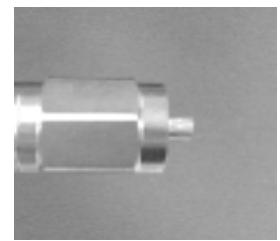

Figure 4
- 5) **Slide** back-nut of connector into place onto prepared cable end. Center conductor should protrude at least 0.25" (5/8" & 7/8" cables) or 0.375" (1/2" cable) (Figure 4). **Slide** front-nut onto center conductor and **hand-tighten** pieces together.